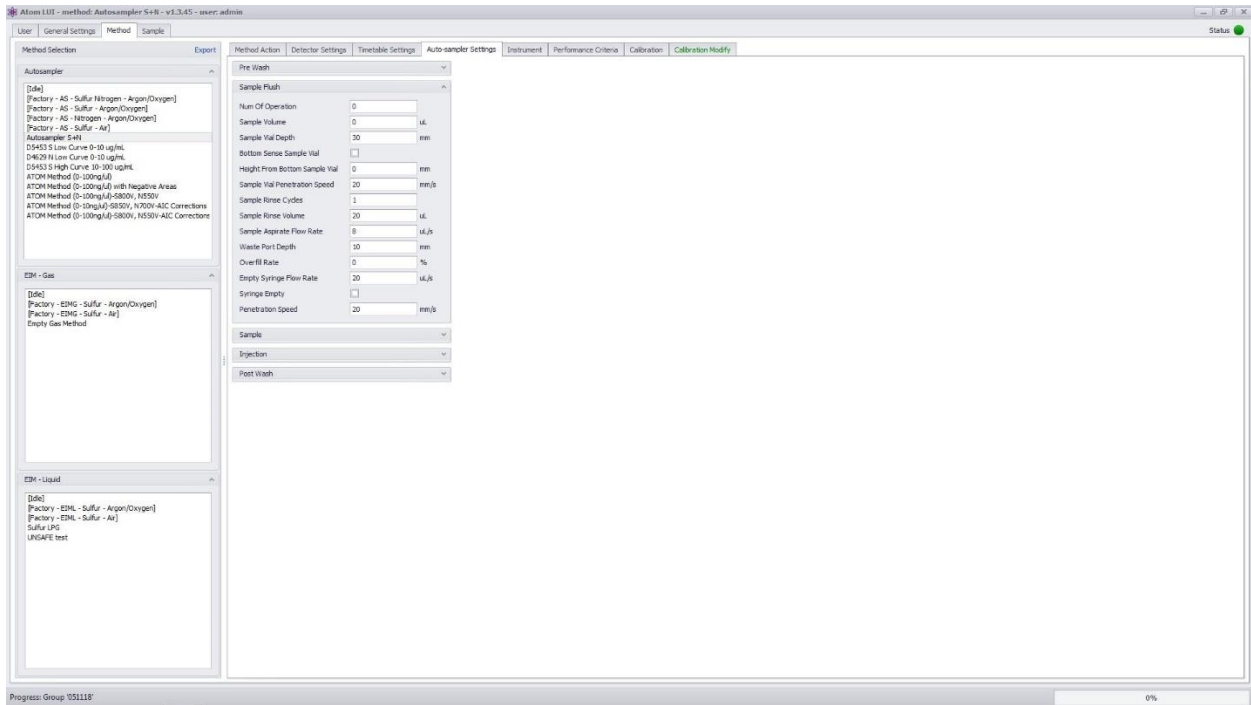

Figure 31 Autosampler Sample Flush Menu
- 2) Sample Flush (Figure 31): Sets syringe sample wash